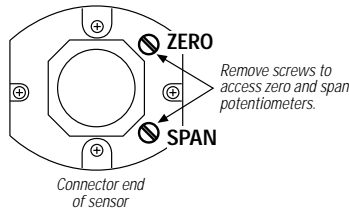

Figure 1
2. Remove the screws that protect the zero and span potentiometer ports (see Fig. 1 above).